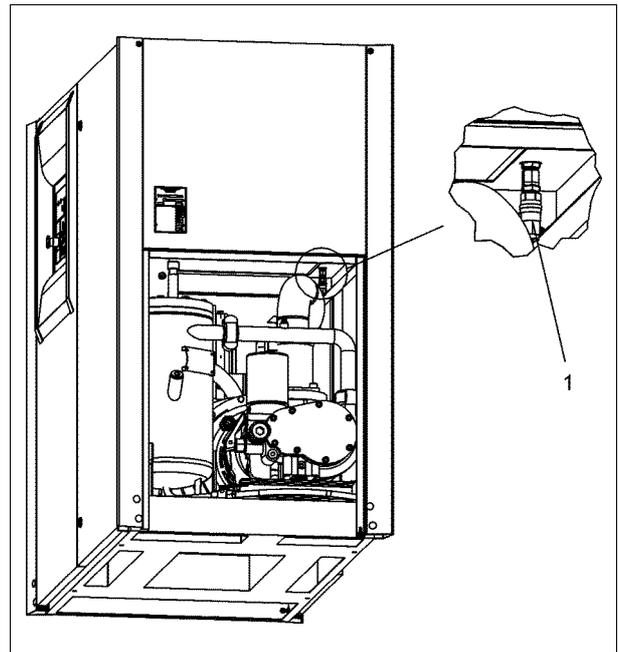

Fig. 22
- Switch the screw compressor unit off and ensure that it is depressurized, electrically isolate and locked off. For this, while the system is switched off carefully open the ballcock (- 1 - Fig. 22) on the downstream cooler until the system has been bled, then close the stopcock again.